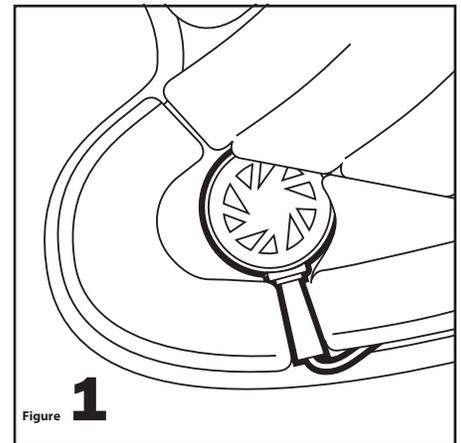

Figure 1
1. Begin by examining the ear pocket area inside your helmet to insure that there is sufficient room to mount the speakers, so that they do not come in contact with your ears. **See Figure 1.** It is important to have the helmet fit and feel the same after the speakers are installed as it did prior to headset installation. If a small amount of styrene material needs to be removed to stop the speakers from pressing against your ears, make sure to remove ONLY the minimum amount, (no more than 1/4") so as to preserve the protective characteristics of your helmet.